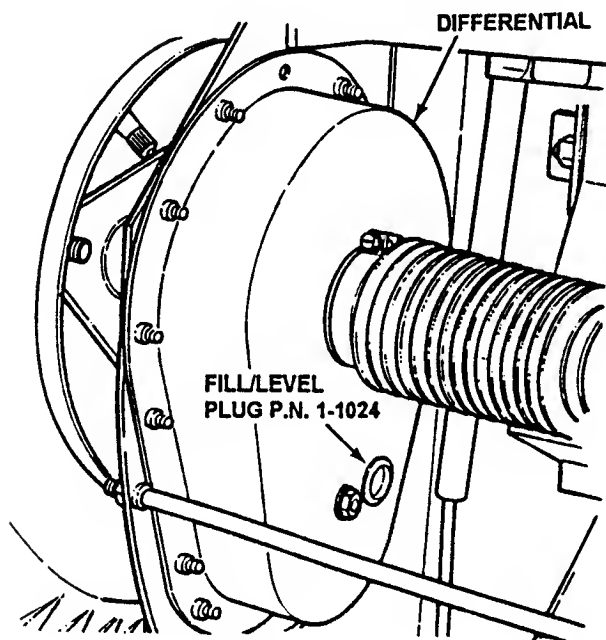

FIGURE 3.9
b. To check lubricant, remove fill/level plug and visually inspect for lubricant on the internal parts of the differential. If no lubricant is visible on the internal parts of the differential, add "00" grease as needed. See Figure 3.9.